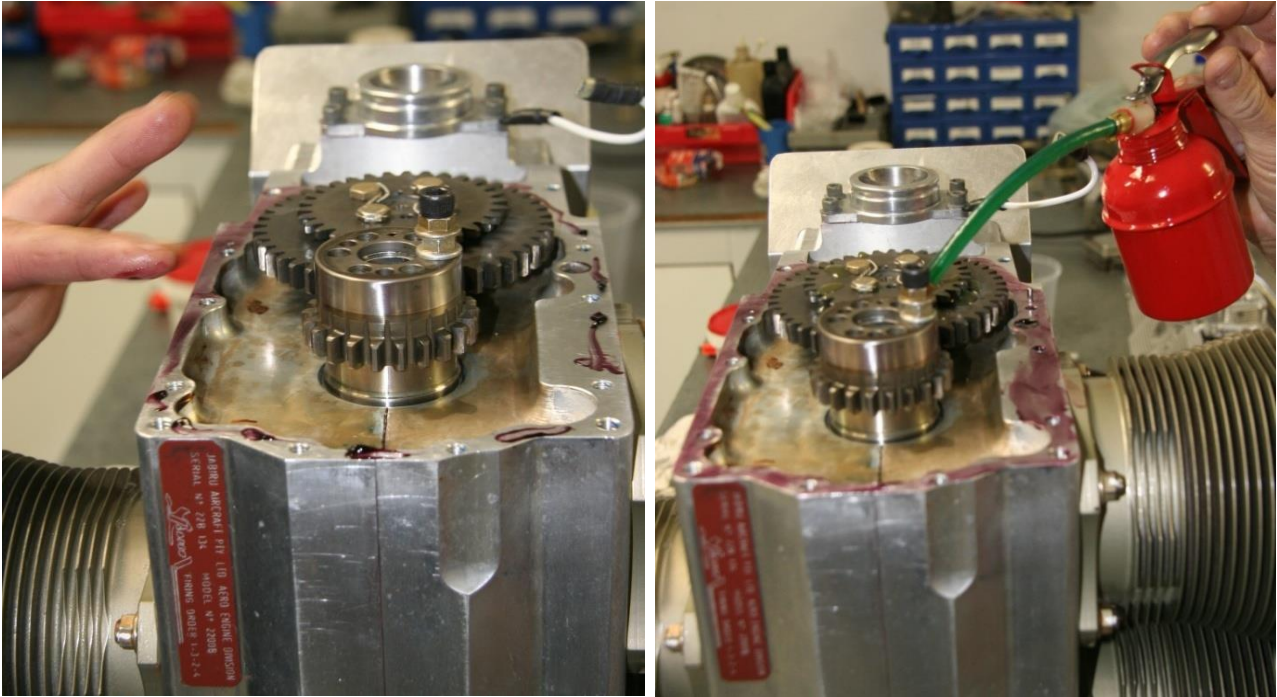

Figure 175 – Sealing Engine Mount Plate
- Apply Loctite 515 sealant to the rear of the crankcase and sump as shown in Figure 175. The cam drive gears should also be lubricated with oil now, before the gear cover is fitted.